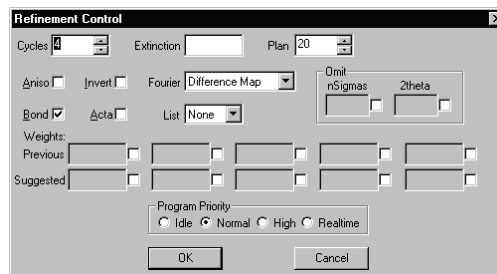

Figure 6-27. Refinement control
30. Click the Refine button at the top of the XSHELL Menu. A panel will appear (Figure 6-27).